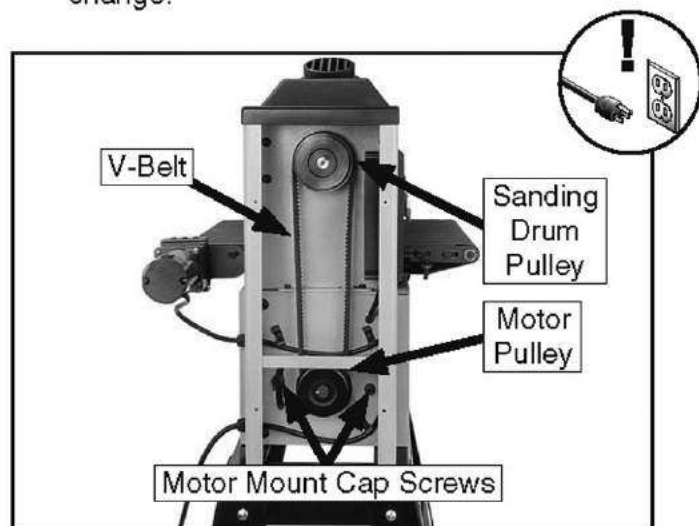

Figure 36. Belt drive system.
3. Loosen motor mount cap screws shown in **Figure 36**.
4. Lift motor pulley to de-tension belt, and tighten motor mount cap screws (see **Figure 36**) to keep motor de-tensioned during belt change.